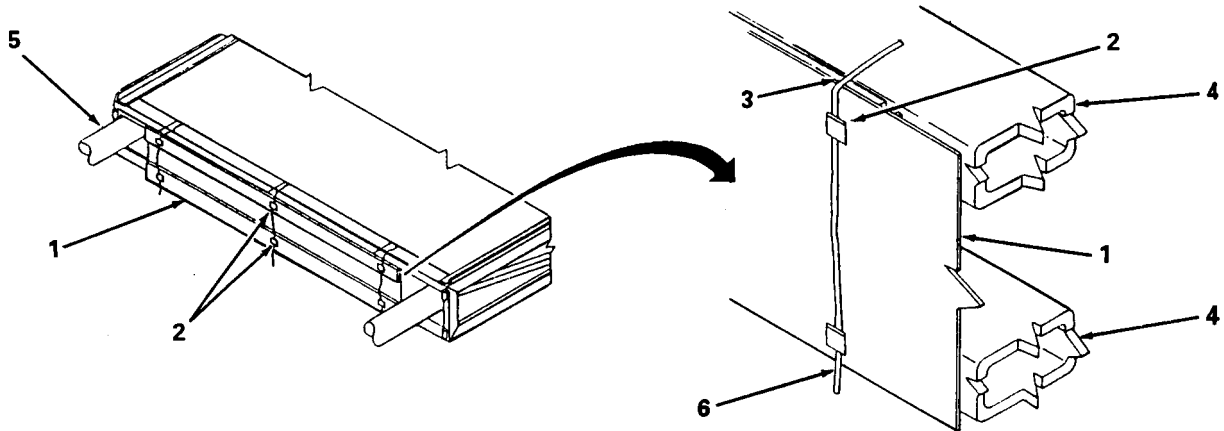

Figure 2-3. Installing Breakaway.
- (g) Install breakaway as follows (figure 2-3):